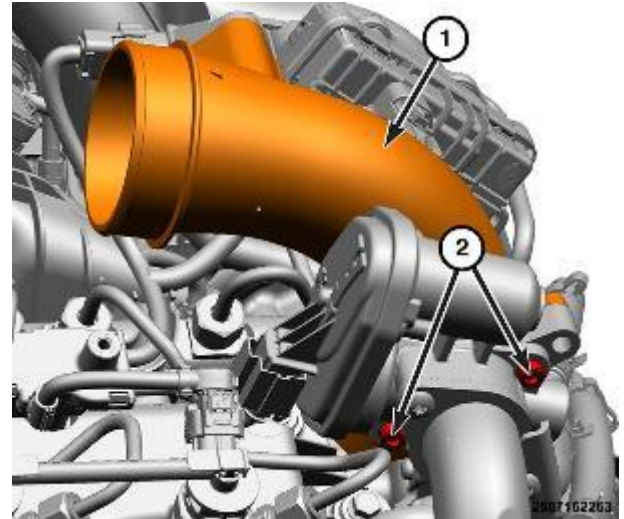

Figure 28 – Low Pressure EGR Valve
- 56. Remove and bolts (2) securing the low pressure EGR valve to the upper turbocharger inlet elbow (1) (Figure 28).